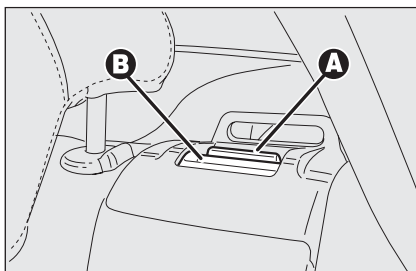

fig. 3
**IMPORTANT** Correct backrest fastening is guaranteed when the “red band” **A-fig. 3** is no longer visible. The “red band” actually indicates that the backrest is not properly secured.
**Make sure the backrest is properly secured at both sides (red band A-fig. 3 not visible) to prevent it moves forward in the event of sharp braking causing injuries to passengers.**